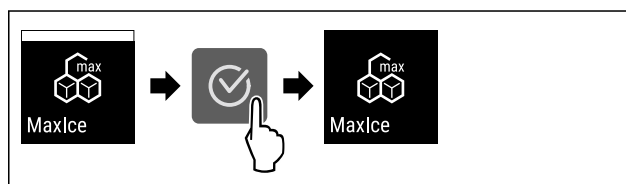

Fig. 23
- ▶ Complete the steps (see Fig. 23) .